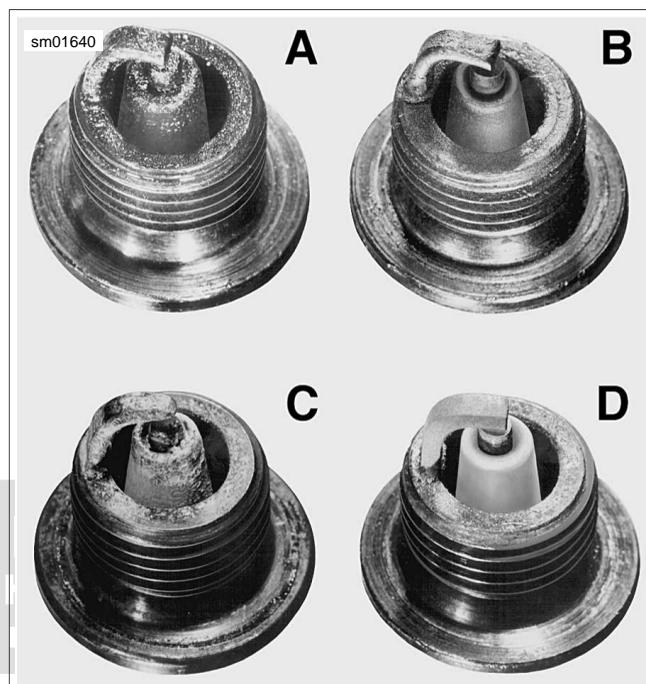

Figure 1-35. Typical Spark Plug Deposits
3. See Figure 1-35. Compare your observations of the plug deposits with the descriptions provided below.